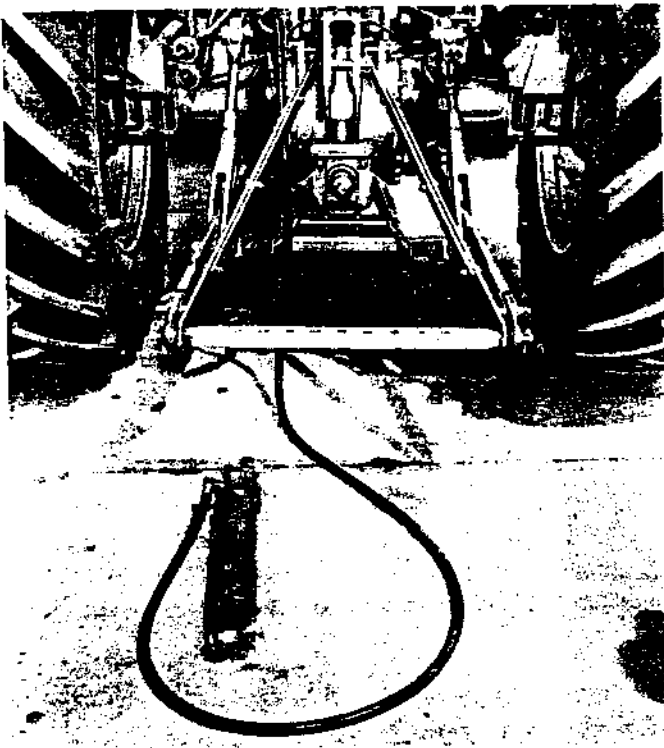

Fig. 10 — Cross Drawbar And Stay Links
1. Install a cross drawbar on lower links and locate links at a near horizontal position with stay links. See (Fig. 10).
b. If using cross drawbar, determine drawbar height, then fix with stay links. (See Fig. 10)
b. If not equipped with a swinging drawbar, install a cross drawbar, determine drawbar height, then fix with stay link. (See Fig. 10)